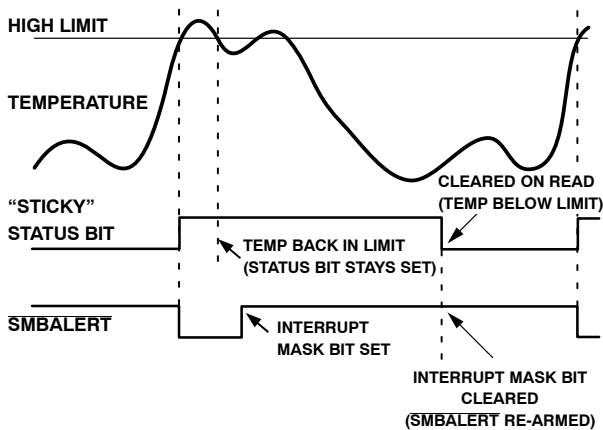

Figure 25. How Masking the Interrupt Source Affects $\overline{\text{SMBALERT}}$ Output
7. Periodically poll the status registers. If the interrupt status bit has cleared, reset the corresponding interrupt mask bit to 0. This causes the $\overline{\text{SMBALERT}}$ output and status bits to behave as shown in Figure 25.